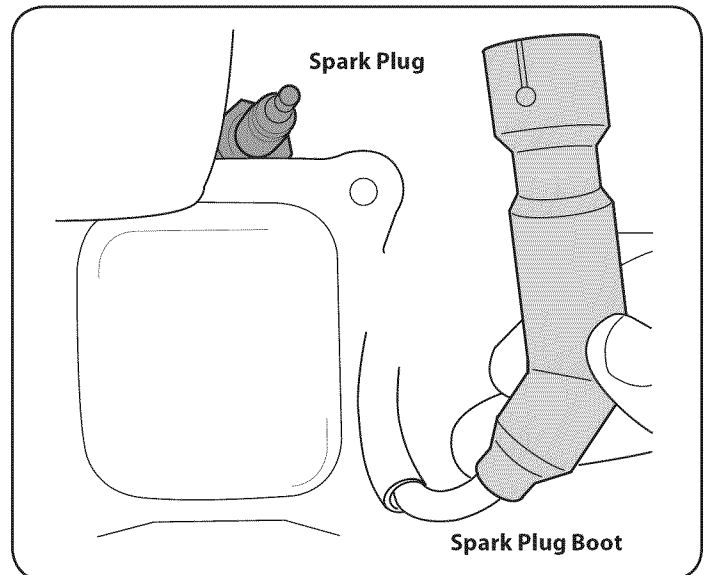

Figure 19
- Remove the spark plug boot and use a spark plug wrench to remove the plug. See Figure 19.